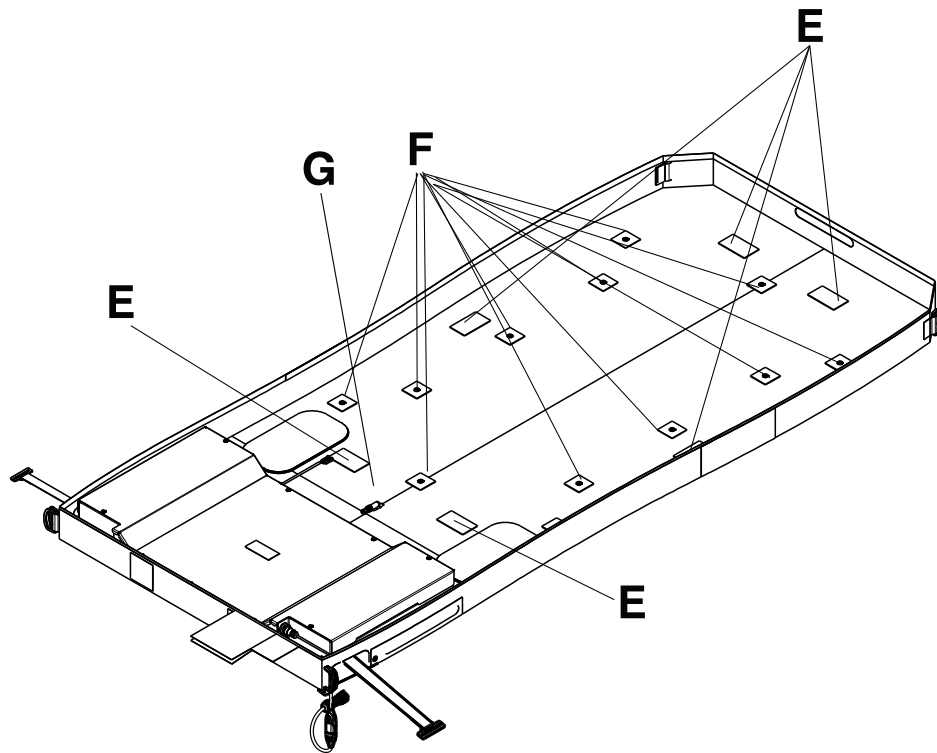

Figure 3 – Pod hook and loop fastener and snap retainers
14. Starting at the head end of the support surface, separate the six hook and loop fastener from the bottom cover (E) (Figure 3).
15. Unsnap the twelve snaps and separate the hook and loop fastener from the left and right sides of the turn bladder (F).